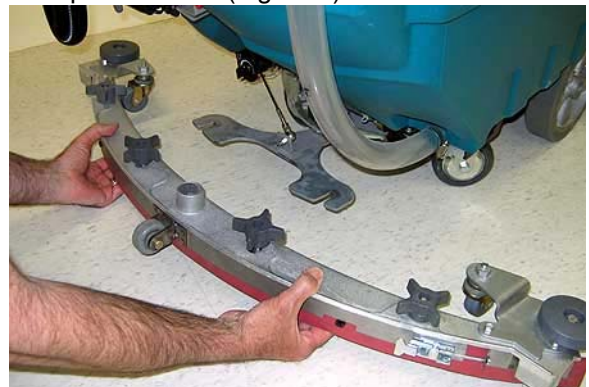

FIG. 5
4. Loosen the knobs and slide squeegee assembly away from pivot bracket (Figure 5).